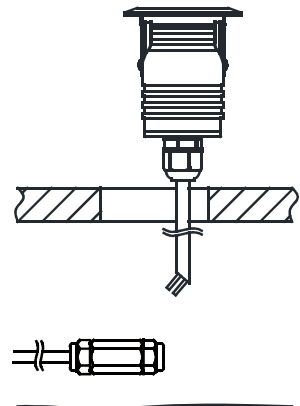

Fig 1.3
1.3 Connect the light fitting cable to the junction box. (See Fig 1.3)